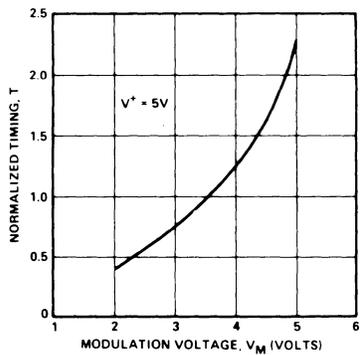
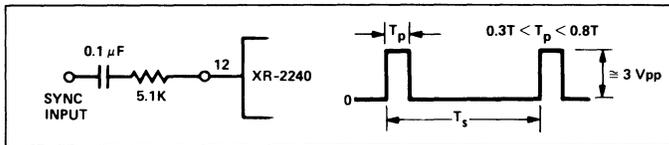
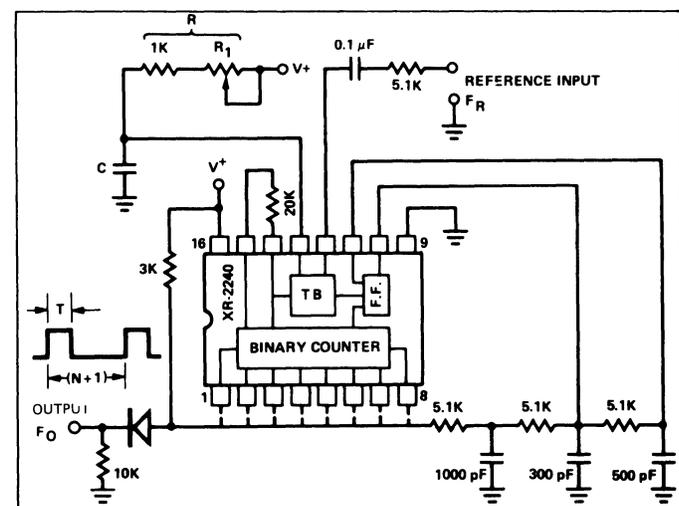

Figure 13. Normalized Change in Time-Base Period As a Function of Modulation Voltage at Pin 12
Figure 16. Operation with External Sync Signal.
Figure 25. Frequency Synthesis by Harmonic Locking to an External Reference
The period  $T$  of the time-base oscillator can be modulated by applying a dc voltage to this terminal (see Figure 13). The time-base oscillator can be synchronized to an external clock by applying a sync pulse to pin 12, as shown in Figure 16. Recommended sync pulse widths and amplitudes are also given in the figure.
**SYNTHESIS WITH HARMONIC LOCKING:** The harmonic synchronization property of the XR-2240 time-base can be used to generate a wide number of discrete frequencies from a given input reference frequency. The circuit connection for this application is shown in Figure 25. (See Figures 16 and 17 for external sync waveform and harmonic capture range.) If the time base is synchronized to the  $m$ th harmonic of input frequency where  $1 \leq m \leq 10$ , as described in the section on "Harmonic Synchronization", the frequency  $f_o$  of the output waveform in Figure 25 is related to the input reference frequency  $f_R$  as:
where  $m$  is the harmonic number, and  $N$  is the programmed counter modulus. For a range of  $1 \leq N \leq 255$ , the circuit of Figure 25 can produce 1500 separate frequencies from a single fixed reference.
One particular application of the circuit of Figure 25 is generating frequencies which are not harmonically related to a reference input. For example, by choosing the external  $R$ - $C$  to set  $m = 10$  and setting  $N = 5$ , one can obtain a 100 Hz output frequency synchronized to 60 Hz power line frequency.